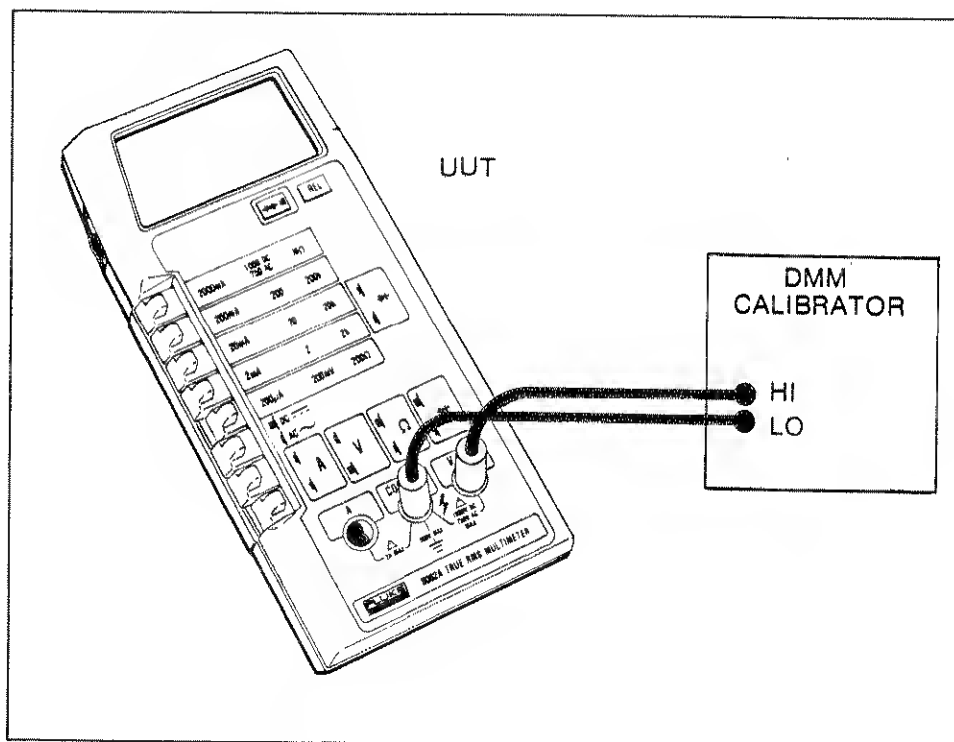

Figure 4-4. General Equipment Connection
1. Connect the UUT and the DMM Calibrator as shown in Figure 4-4.
3. Connect the equipment as shown in Figure 4-4 and turn on the equipment.
4. On the UUT, select the dc voltage function and the 2 volt range. Turn R6 fully clockwise (CW), and turn R5 fully counterclockwise (CCW).